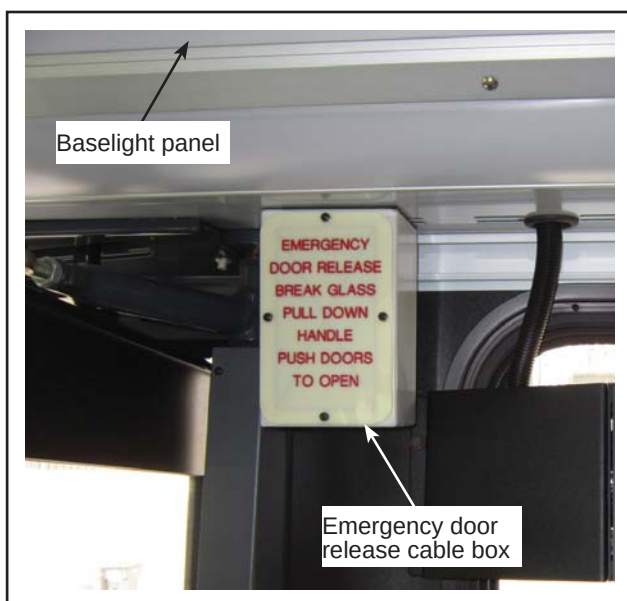

Figure 1 - Emergency Door Release Cable Box (Typical)
- 1.1. Locate the front emergency door release cable box. See Figure 1.
- 1.2. Remove the baselight panel. Retain the hardware. See Figure 1.